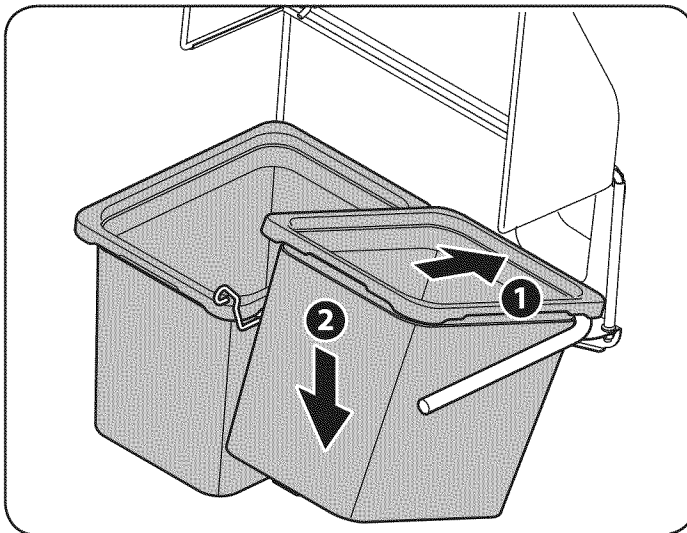

Figure 12
4. To reinstall the grass bags, insert the leading edge onto the bagger mount assembly (1 in Figure 12), and pivot the grass bag rearward and down as shown in 2 of Figure 12.